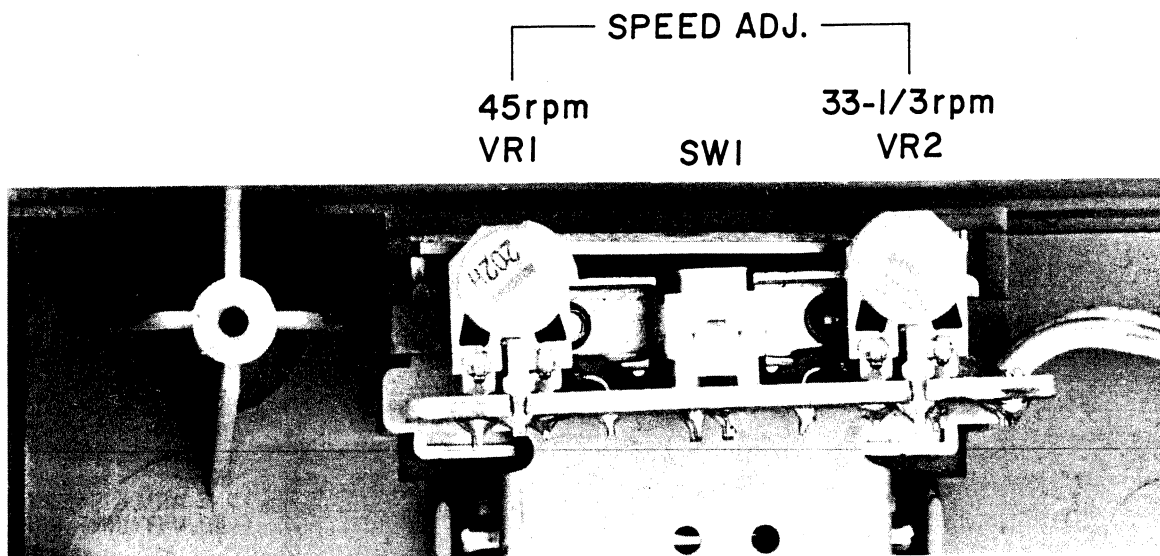

Fig. 7 Push Switch PCB
1. SPEED ADJUSTMENT (Refer to Fig. 7)